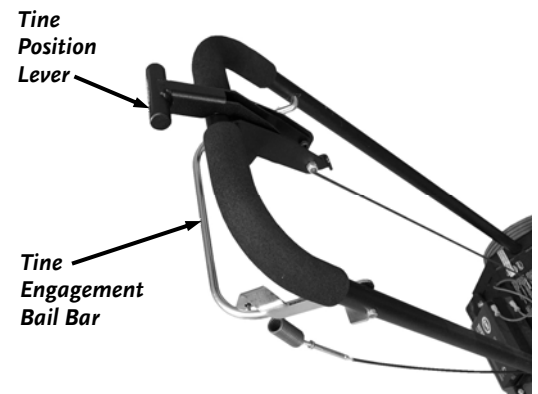

Figure 10
3. Make sure the Tine Position Lever is in the “Raised” position (**Figure 10**).